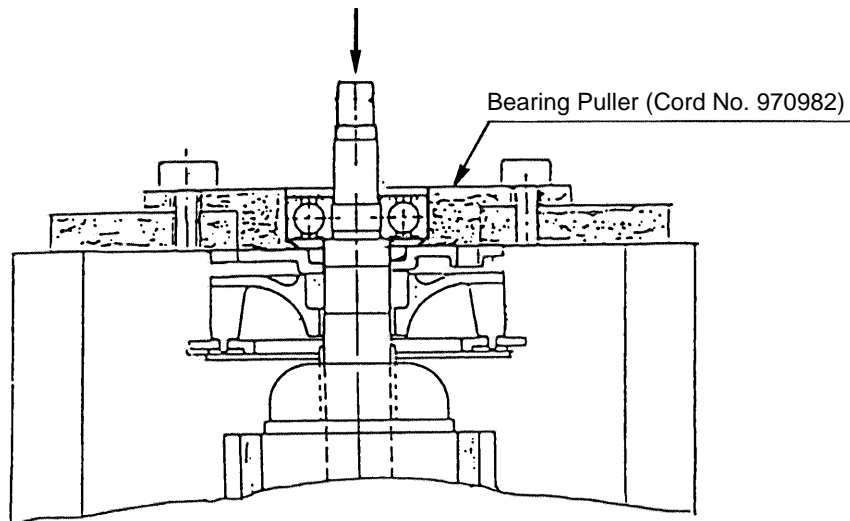

Fig. 1
- (6) After removing the three M4 x 10 Seal Lock Screws (1), the Armature (13) can be extracted together with the Bearing Cover (12), and related parts.
- (7) Carefully wrap the Armature Ass'y (13) with a soft, clean rag to protect it from being damaged, and clamp it securely in a vise. Then, remove the M7 Nut (5), and extract the Pinion (6).
- (8) For the models indicated under Fig. 1, the Ball Bearing (9) can be removed from the Armature (13) by utilizing a J-204 Bearing Puller (special repair tool Code No. 970982) as illustrated. After the Ball Bearing has been removed, the Bearing Cover (12) can be easily taken off.